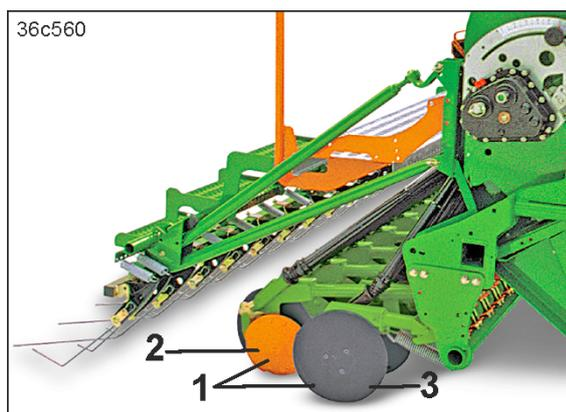

Fig. 54
The RoTeC Control coulters (Fig. 54/1) is used for seed placement on ploughed or mulched soil, even with large quantities of straw and plant residues.
Due to the support of the coulters on the depth control disc / wheel (Fig. 54/2) and the high coulters pressure, the coulters run very smoothly and accurately maintains the seed placement depth.
- cleaning the rear side of the steel disc (Fig. 54/3).